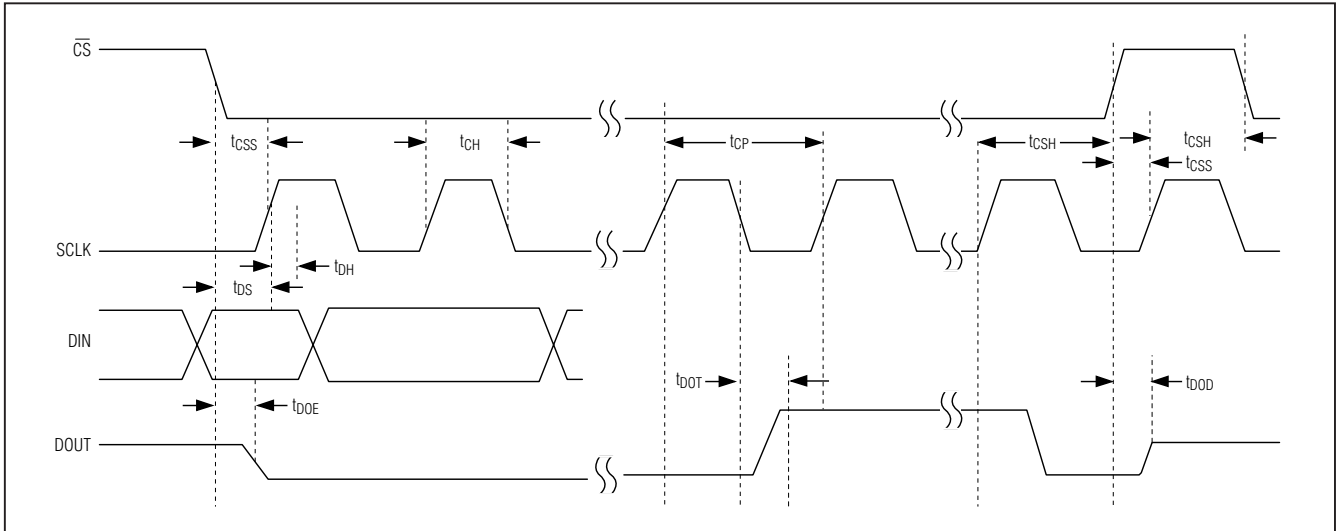

Figure 1. Detailed Serial-Interface Timing Diagram
**TIMING CHARACTERISTICS (Figure 1)**